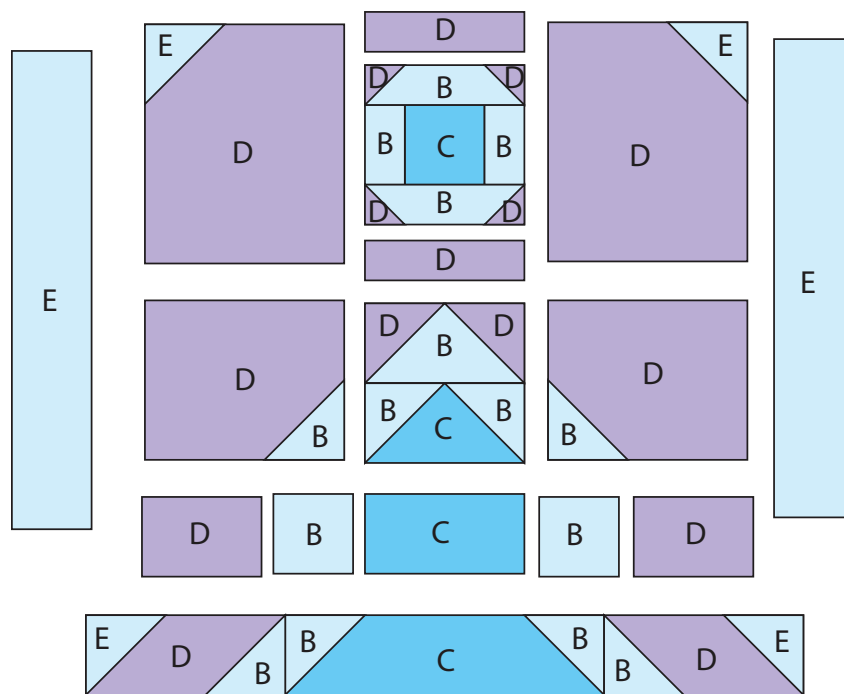

Fig. 22
21. Follow Figure 22 and sew the units from Steps 14-20, (2) 2 1/2" x 12 1/2" Fabric E strips, (2) 1 1/2" x 2 1/2" Fabric B strips, (2) 1 1/2" x 4 1/2" Fabric D strips, (2) 2 1/2" x 3 1/2" Fabric D strips, (1) 2 1/2" x 4 1/2" Fabric C strips, (2) 2 1/2" Fabric B squares and (1) 2 1/2" Fabric C square together to make (1) Block Four.